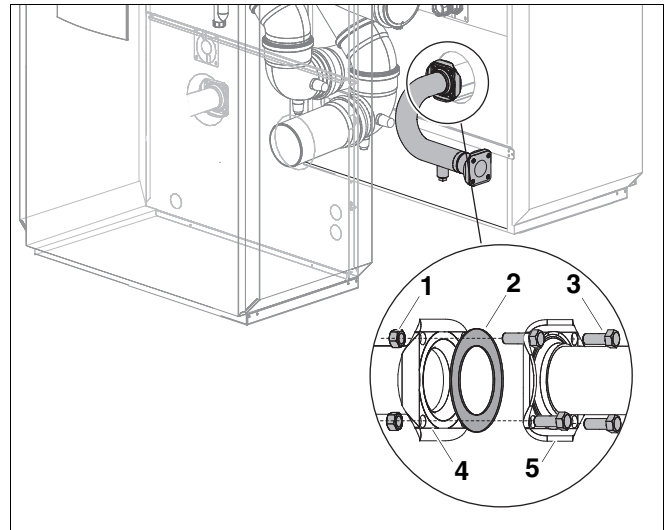

Fig. 9 Fitting the return connection to the first boiler
- Place gasket (Fig. 9, [2]) on the boiler return.
- Secure return piece flange (Fig. 9, [5]) to boiler return flange (Fig. 9, [4]) using four bolts (Fig. 9, [3]) and nuts (Fig. 9, [1]) and tighten by hand.